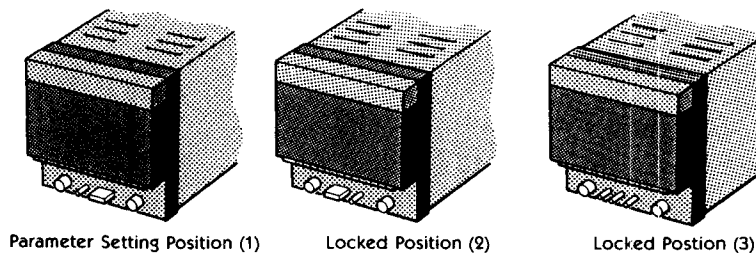

Figure 3-2. Parameter Lock Positions
The chosen parameters may be permanently locked into memory by removing or altering the position of the jumper behind the lower front bezel (see Figure 3-2). Note that locked positions (2) and (3) are alternatives and that the jumper socket is in the "inactive" position in (2).
Check that the Parameter Lock is in the Parameter Setting Position (see Figure 3-2) and proceed as follows: